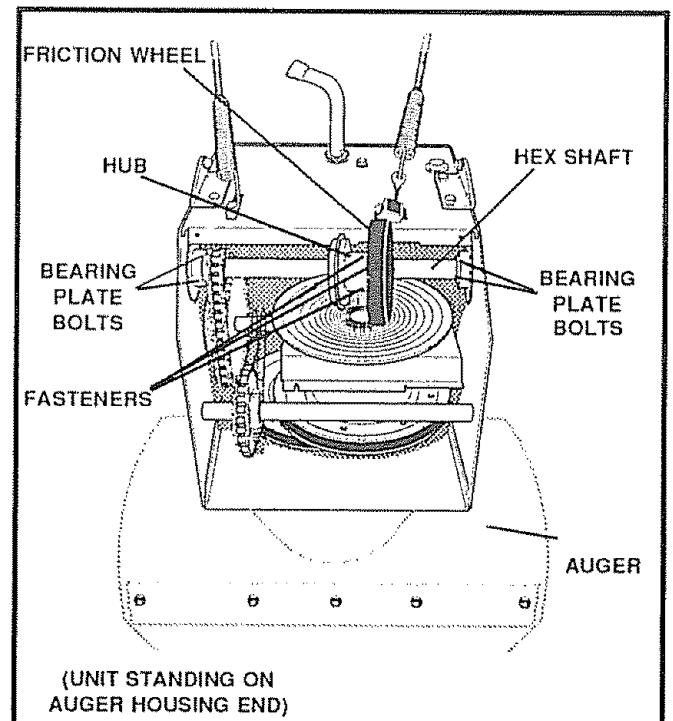

FIG. 32
- Remove the four bolts securing the bearing plates (both sides) (See Fig. 32)